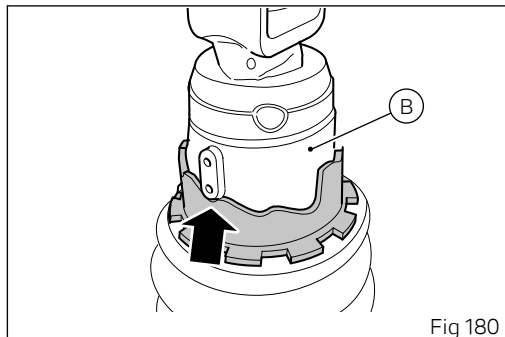

Fig 180
The chain tension value is valid if the rear shock absorber (B) is in default condition, that is 2 notches from the fully compressed condition, as shown (Fig 180).